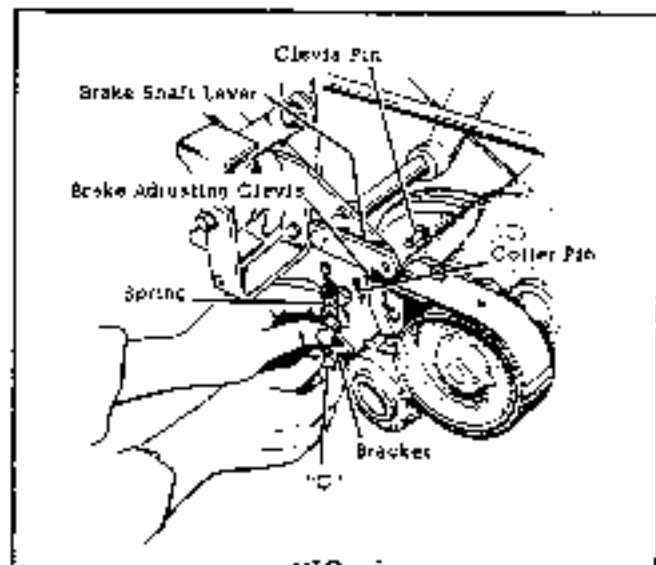

FIG. 3
the transmission so that bolt "A" may be inserted and partially tightened. Add bolt "B". Now add bolts "A" & "B" to the L.H. side of the transmission. With the spring bracket in place on bolt "C" and positioned as shown in Fig. 3, tighten the bolt. Now tighten all 6 mounting bolts securely.
3. Insert the clevis pin through the hole of brake adjusting clevis, through the hole in lever of clutch and brake shaft assembly, and through the end loop of spring. After the pin is in place, secure with cotter pin. See Fig. 3.